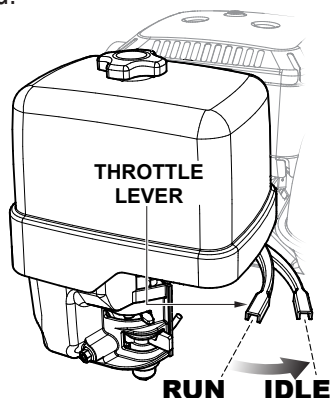
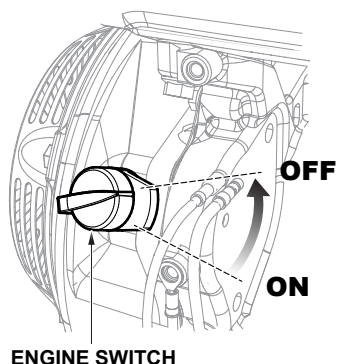

Figure 17. Engine Throttle Lever (Idle)
Figure 18. Engine ON/OFF Switch (OFF)
1. Place the **engine throttle lever** in the **IDLE** position (Figure 17) and run the engine for three minutes at low speed.
2. After the engine cools, place the **engine ON/OFF switch** in the **OFF** position (Figure 18).
Quickly move the **engine throttle lever** to the **IDLE** position (Figure 17), then place the **engine ON/OFF switch** in the **OFF** position (Figure 18).